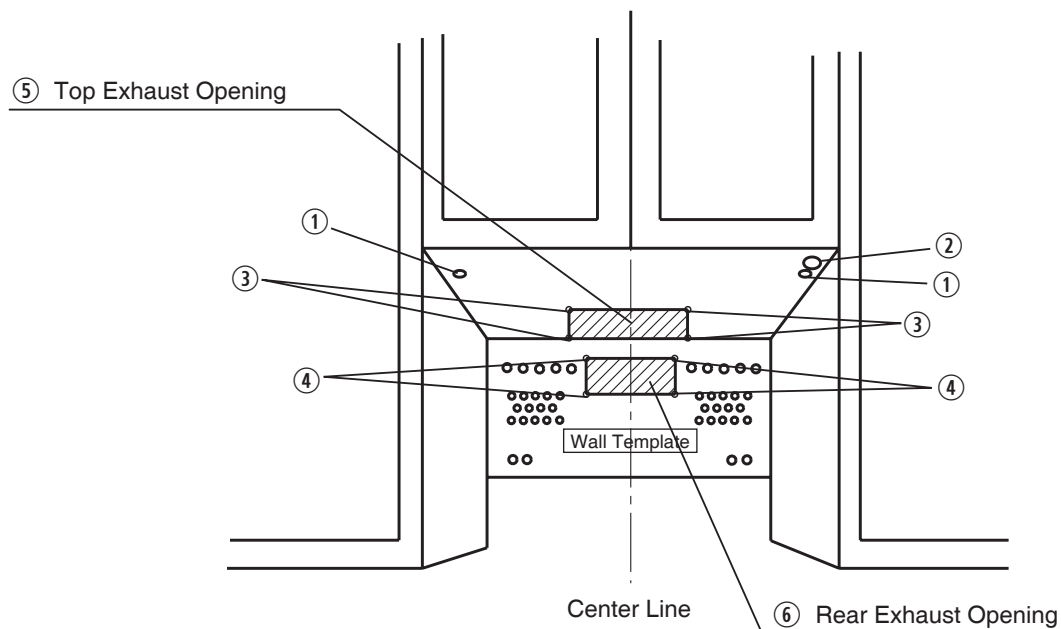

Fig. 2-1
- 2-1. Draw a vertical center line on wall and a center line of the cabinet. (Fig. 2-1)
- 3-1 Drill 3 pilot holes at the center point (No.① and No.② in Fig. 2-1)
If Top Exhaust application is chosen, you will need 4 more pilot holes. (No.③ in Fig. 2-1)
If Rear Exhaust application is chosen, you will need 4 more pilot holes. (No.④ in Fig. 2-1)
- 3-3 Drill two 1/2" holes from the No.① pilot holes. Drill a 3/16" hole from the No.② pilot hole for AC cord.
- 3-4 If Top Exhaust application is chosen, you will need to cut the Top Exhaust opening. (No.⑤ in Fig. 2-1)
If Rear Exhaust application is chosen, you will need to cut the Rear Exhaust opening. (No.⑥ in Fig. 2-1)
Note: If Rear Exhaust is chosen, the product need a Rear Wall Exhaust cutout opening for the Rear Wall duct and the Exhaust adaptor must be installed on the bracket (hardware item ⑥) with two screws. (hardware item ⑤) (Fig. 2-1).
- 4-2 Fasten the bracket with two $1\frac{3}{4}$ " wood screws ①.
- 4-3 Tighten four toggle bolts ②.
4. Pass AC cord through kitchen cabinet hole. (No. ② in Fig. 2-1)